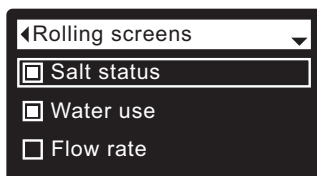

FIG. 53
5. Press the SELECT (O) button to display the Rolling screens menu (See Figure 53).